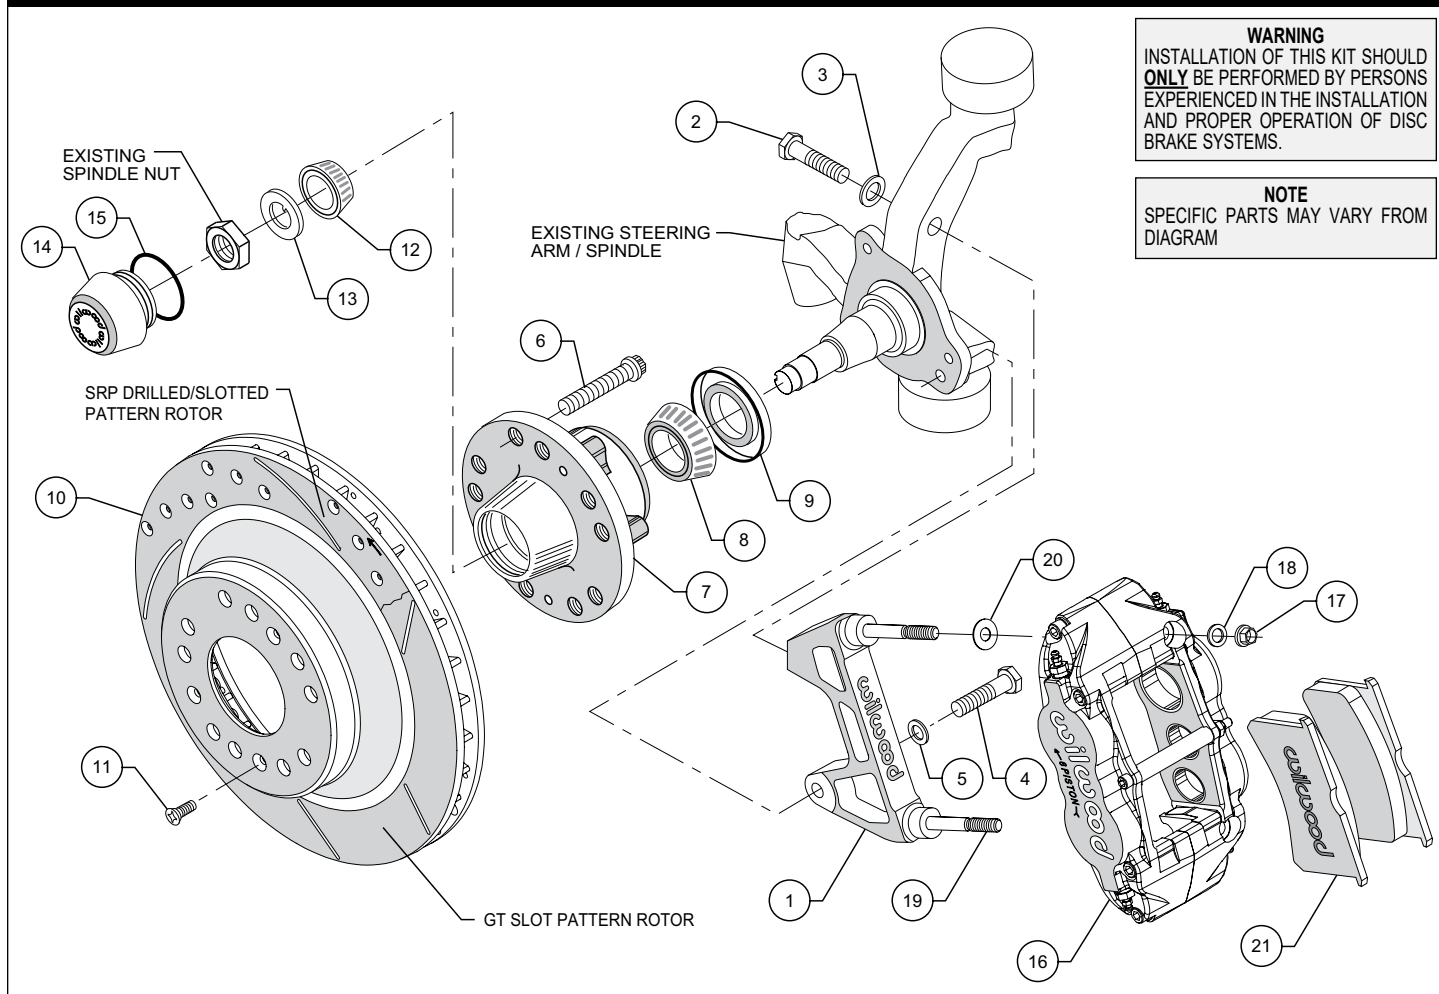

Figure 1. Typical Installation Configuration
NOTE: Numbers in parenthesis refer to the parts list and Figure 1 on the preceding pages.
- The caliper mount bracket (1) should initially be installed with clean, dry threads on the mounting bolts. Orient the bracket as shown in Figure 1, and install using bolts (2/4) and washers (3/5). Temporarily tighten the mounting bolts. **NOTE:** The bracket must fit squarely against the mount bosses on the upright. Inspect for interference from casting irregularities, machining ridges, burrs, etc. After the bracket fitment has been checked, remove the bracket bolts one at a time and apply red *Loctite*® 271 to the threads. Torque bolt (2) to 65 ft-lbs., and bolt (4) to 50 ft-lbs.
- Install wheel studs (6) into the hub (7), Photo 1. Torque to 77 ft-lb. **NOTE:** There are two five lug patterns in the hub (5 x 4.50 and 5 x 4.75). Ensure the correct hub stud pattern is being used to fit the wheel application.
- Pack the large inner bearing cone (8) with high temperature disc brake bearing grease (available from your local auto parts store) and install into the backside of the hub (7), Photo 2.
- Install the grease seal (9) by pressing into the backside of the hub (7), flush with the end of the hub, Photo 2.
- Pack the small outer bearing cone (12) with high temperature disc brake bearing grease and install into hub (7). Slide the hub assembly onto the spindle. Secure using spindle washer (13) and OEM spindle nut, Photo 3. Adjust bearings per OEM specifications. Install saved OEM nut lock (if any) and a new cotter pin (not included).
- Screw dust cap (14) into hub (7), Photo 4. Friction created by the o-ring (15) on the dust cap keeps it from unscrewing. **NOTE:** The O.D. of the existing OEM spindle washer may be larger than the I.D. of the dust cap not allowing it to seat against the hub face. Therefore, use the spindle washer (13) supplied with the kit instead of the OEM washer.
- Slide the hat/rotor (10) onto the hub (7) taking care to align the small countersunk holes in the hat with the small threaded holes in the hub. **NOTE:** The hat must fit flush against the hub face or excessive rotor run out may result. Install three flat head screws (11) through the small holes in the hat (10), Photo 4, and torque to 85 in-lb.
- NOTE:** This kit contains distinct right and left hand calipers that must be mounted in a specific direction, as described below. Initially place one .035" thick shim (20) on each stud between the caliper and the bracket, as shown in Figure 1 and Photo 5. Mount the caliper (16) onto the bracket (1) using lock nuts (17) and washers (18), Figure 1. Ensure that the caliper is mounted so the largest pistons are at the rotor exit end of the caliper, in relation to the direction of rotor rotation. Temporarily tighten the lock nuts.